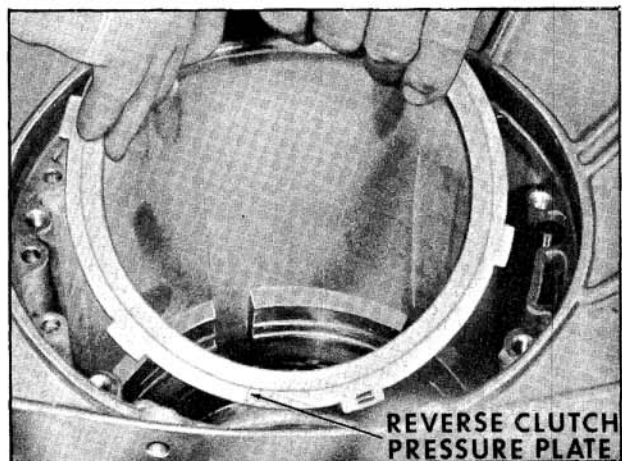

Fig. 6-379 Removing Reverse Clutch Pressure Plate
2. Lift reverse clutch pressure plate from transmission case. (Fig. 6-379)